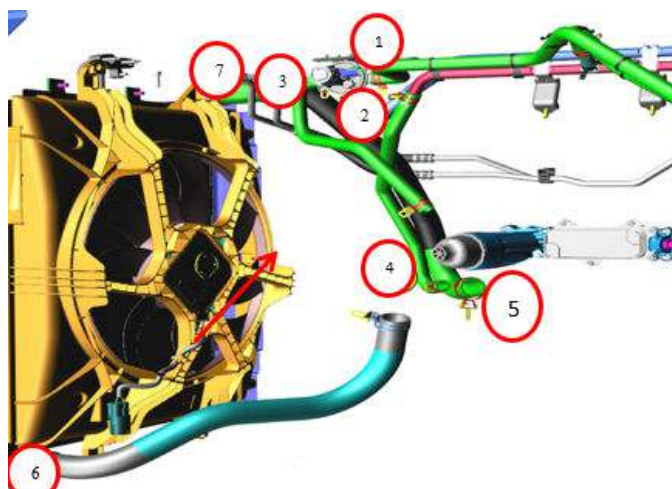

Fig. 2
9. Block connections one, two and three (pinch hoses shut or plug with caps) and insert the flushing gun into hose four again. Flush with pressure from this point only while allowing drainage from point five (water pump) Fig. 2.
10. Leaving connections one, two, three and four DISCONNECTED, disconnect points five and six to perform a reverse flush of the radiator Fig. 2.
11. Insert the flushing gun into connection five hose to flush the radiator. Flush from this point only while allowing drainage from point six Fig. 2.